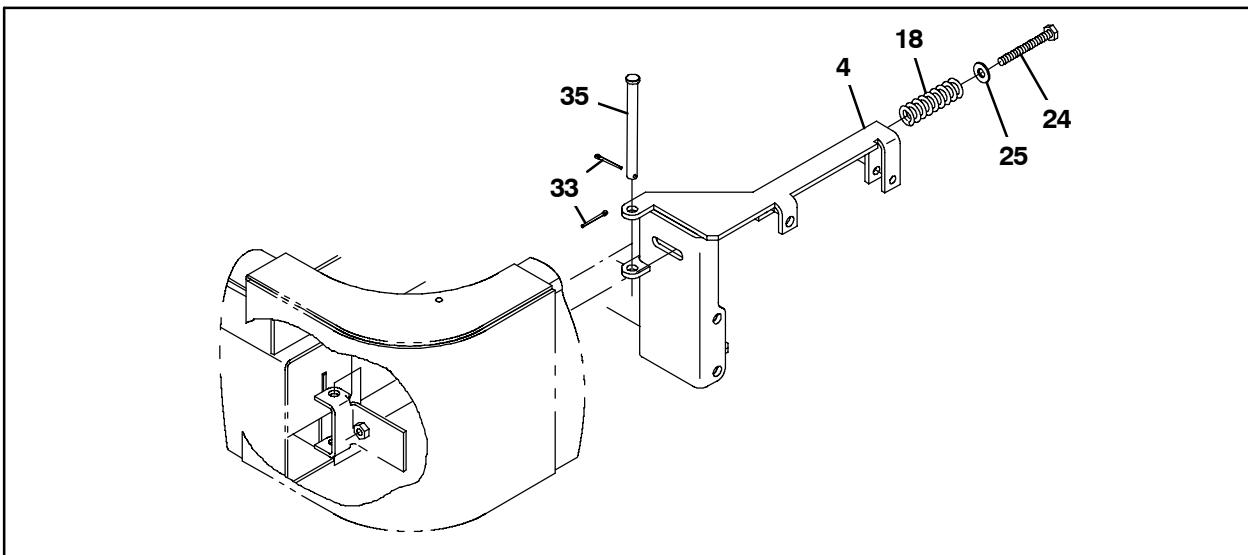

FIG. 5
14. Use a clevis pin (35) and cotter pin (33) to install the left brush assembly onto the front bumper. Refer to Fig. 5.
15. Use a hex screw (24) and a flat washer (25) to install the 2.5" spring (18) onto the frame of the machine. Refer to Fig. 5.